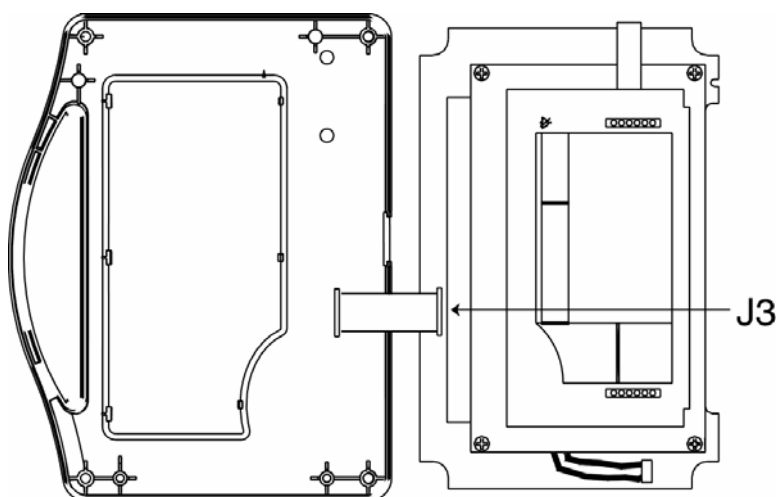

Figure 23: Replacing the Main Control Board
- 5) Remove the four (4) screws used to secure the Main Control board and LCD assembly to the Case Extension and Case Front.
- 6) Fold the Main Control board and LCD assembly out from the Case Extension and remove the ribbon cable from the J3 Front Panel Keyswitch connector. Remove the assembly. Refer to Figure 23.